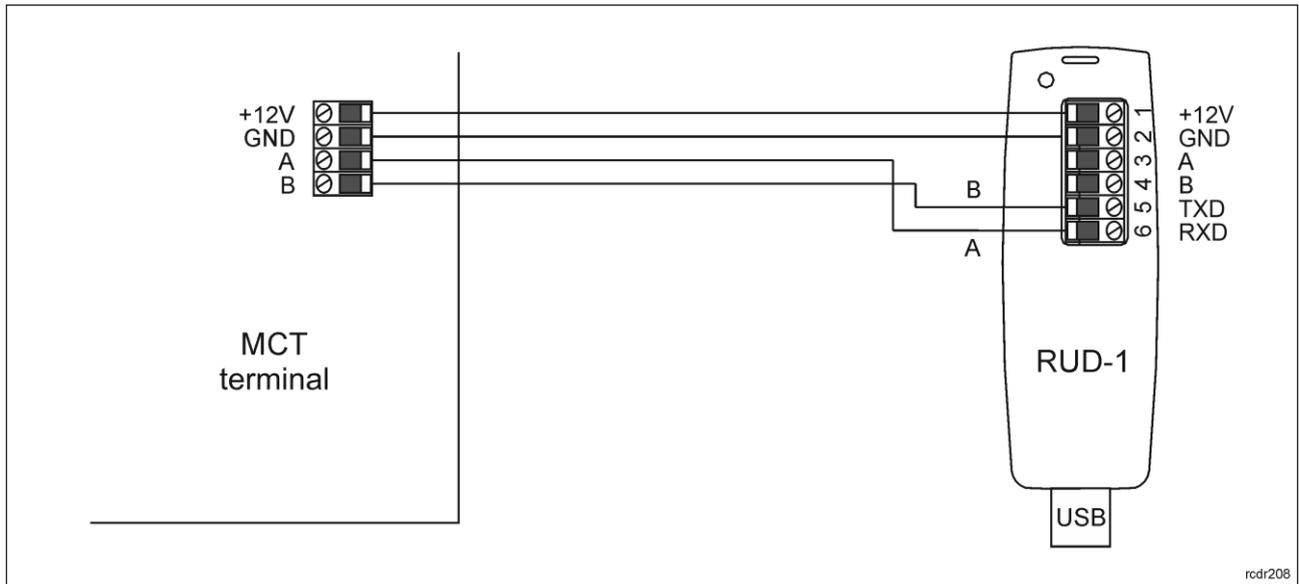

Fig. 7 Connection to RUD-1 interface (firmware update)
The update requires connection of reader to computer with RUD-1 interface (fig. 7) and starting RogerVDM software. The latest firmware file is available at www.roger.pl.
1. Connect the reader to RUD-1 interface (fig. 7) and connect the RUD-1 to computer's USB port.